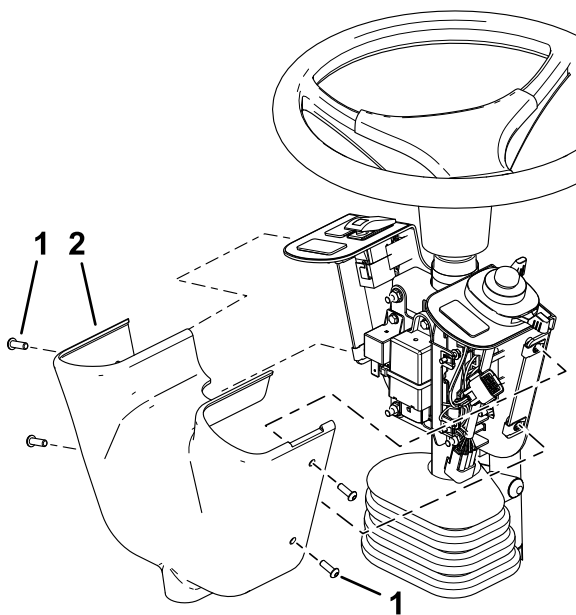

Figure 7
- Remove the 4 hex-socket head screws securing the control cover and remove it (Figure 7).
12. Install the control cover as shown in Figure 7.